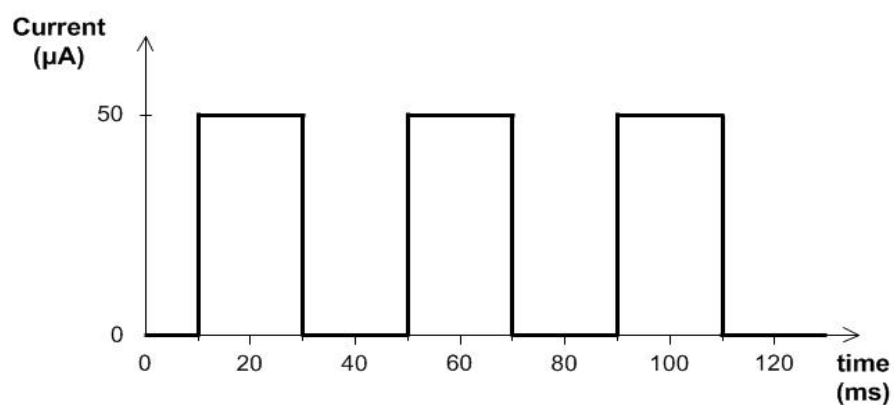

Fig.4
- (ii) When the optical shaft encoder is rotating at one particular speed, the receiver produces the output current signal shown in **Fig.4**.